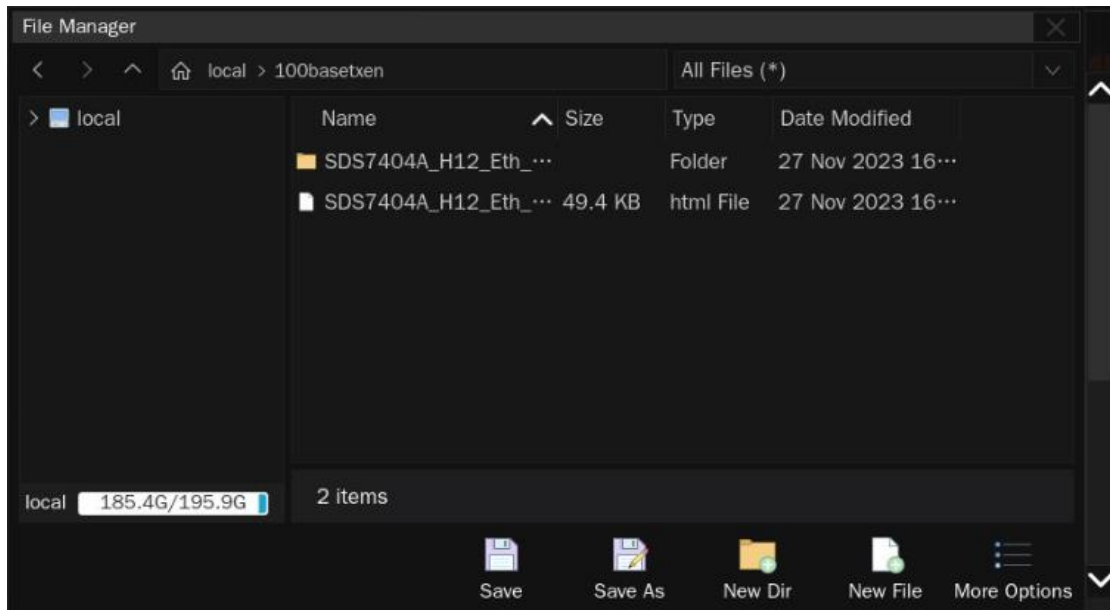

Figure 4-9 Generate report settings
**Preview Report** can view the generated report in advance. Click **File Management** to select the path to save. Click **Save** to save the test results, as shown in Figure 4-9.